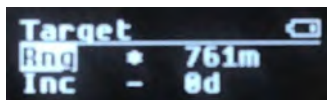

Figure 2.8-10. Target Menu
- Step 1.)** Access the **"Target"** option on the Ballistics Menu as described in Section 2.8.2, then use the Fire/Up and Adjust/Down Buttons to adjust the value on the Target Menu (see Figure 2.8-10).